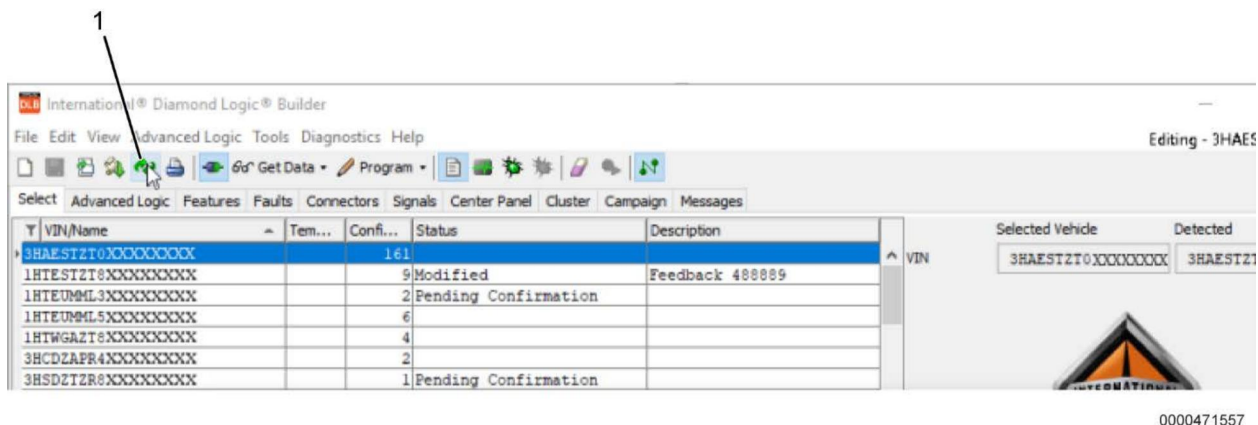

Figure 1. Update All Icon
10. Click on **UPDATE ALL** icon (Figure 1, Item 1) in toolbar. DLB will list latest module versions in kernel column.